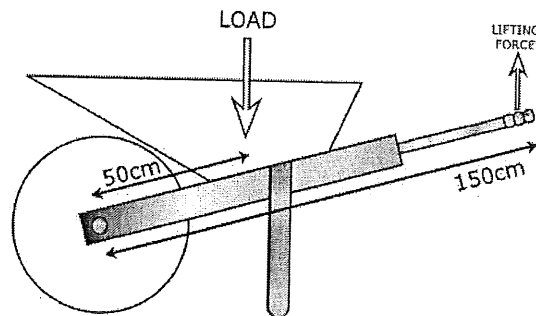

Figure 1: A Wheel Barrow
- b) LIST out at least **three (3)** simple machine and give an explanation each of them (4 marks)
- c) A lever must have **three (3)** basic elements which are **Effort, Load and Fulcrum**. Describe these elements. (6 marks)
- d) Classify **three (3)** categories of lever and give an example of each category (4 marks)
- e) Figure 1 below show a wheel barrow.